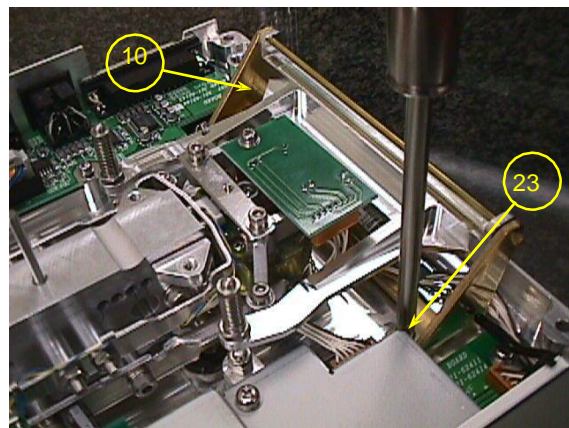

Fig.12
16.7 Replacing the Weight loader assy (10) (UW series only)
- Detach the Assy,Case (3) / Assy,Pan support (4) in accordance with the steps outlined in “3. Inspection of the Balance Interior”.
- Undo the CS-5 clip (15) securing the Cable,45 (B7) and the Weight loader assy (10) and disconnect the Cable,45(B7) and Weight loader assy (10) connectors at the Assy,Display (B4).
- Loosen the four P4 M4x10 screws (23) fixing the Weight loader assy (10) in place to detach the Weight loader assy (10) (Fig.12).
- Fit the new Assy,Calibration weight loading (10) by following the steps 2) to 3) above in reverse order.
- Perform “6. Adjustment of the Pin Height of the Weight loader assy (10)”.